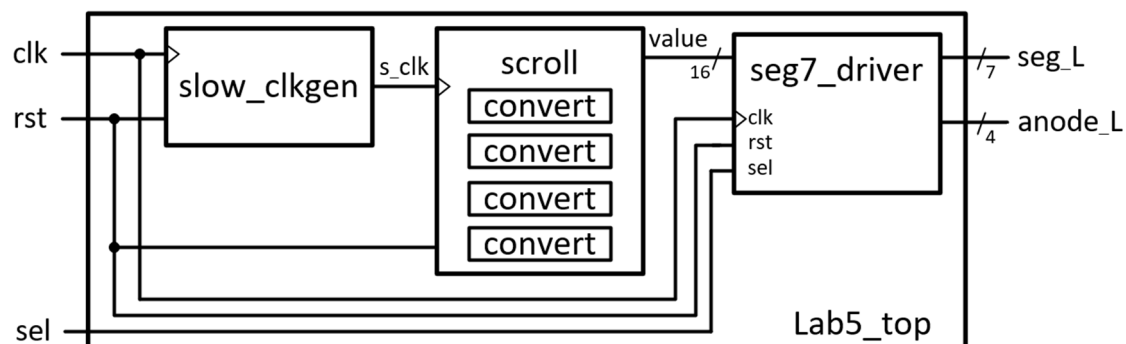

Figure 1
7. Lastly, open Lab5_top.v and Lab5_top.xdc. Lab5_top.v implements the system shown in figure 1. You still need to instantiate the slow_clkgen and scroll modules, as well as implement the scroll module which itself instantiates four convert modules. You will design the scroll and convert modules in part 2. Next look at Lab5_top.xdc. It maps clk, rst, seg_L and anode_L to the FPGA pins corresponding to the off-FPGA components we are using. It is very similar to what you used in Lab 4.
7. Lastly, open *Lab5_top.v* and instantiate the missing *slow_clkgen* and *scroll* modules as per figure 1.